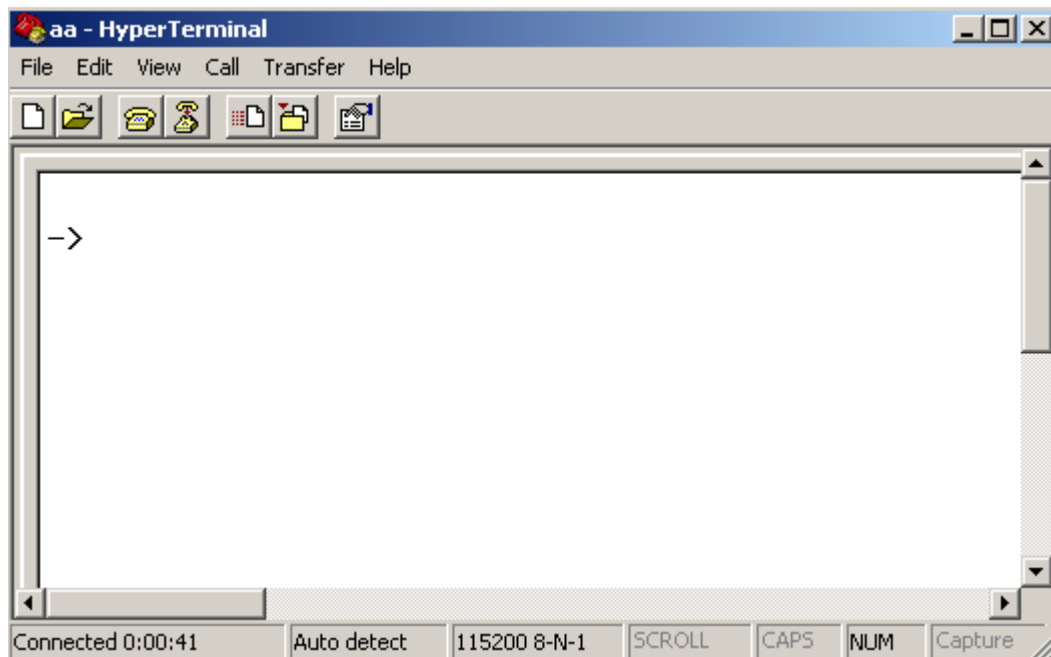

Fig. 3.1.7 Hyper Terminal command prompt
**Step 2:** Press “Enter” in Hyper Terminal, the prompt “—>” appear, as in Fig. 3.1.7. Under this prompt the following operation commands to accomplish the setup of the parameters.